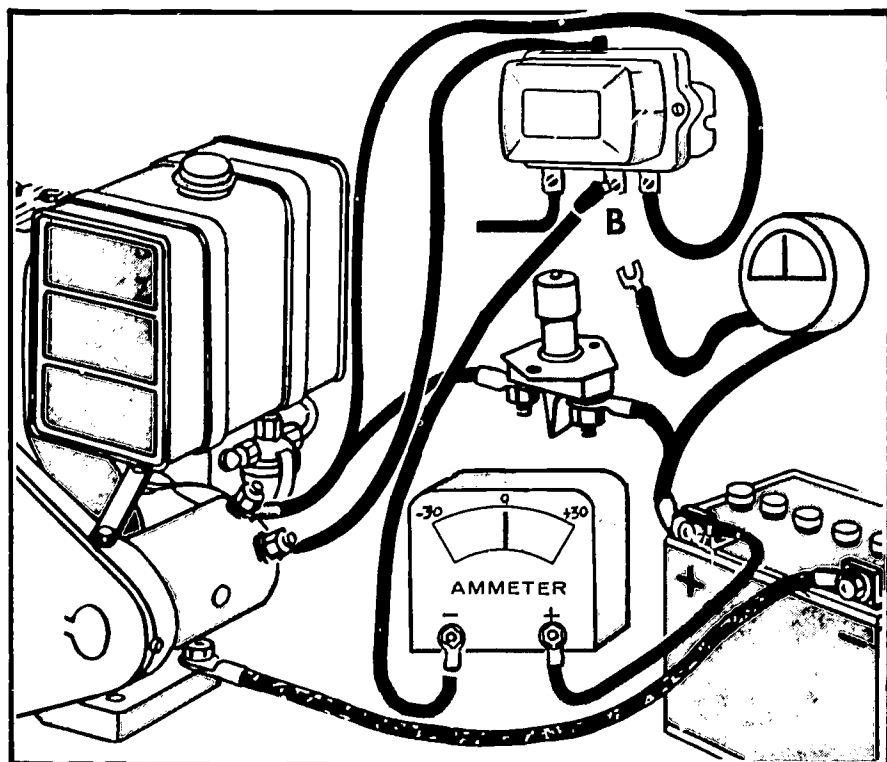

FIGURE 62. Checking the generator circuit with an ammeter on a tractor-type regulator.
Only the procedures for checking the tractor-type regulator (Figure 62) are given, since it is this type you are most likely to have on your small engine.
1. *Check the "A" and "B" leads to make certain they are not interchanged (Figure 62).*
2. *Disconnect the "B" lead from the voltage regulator (Figure 62).*